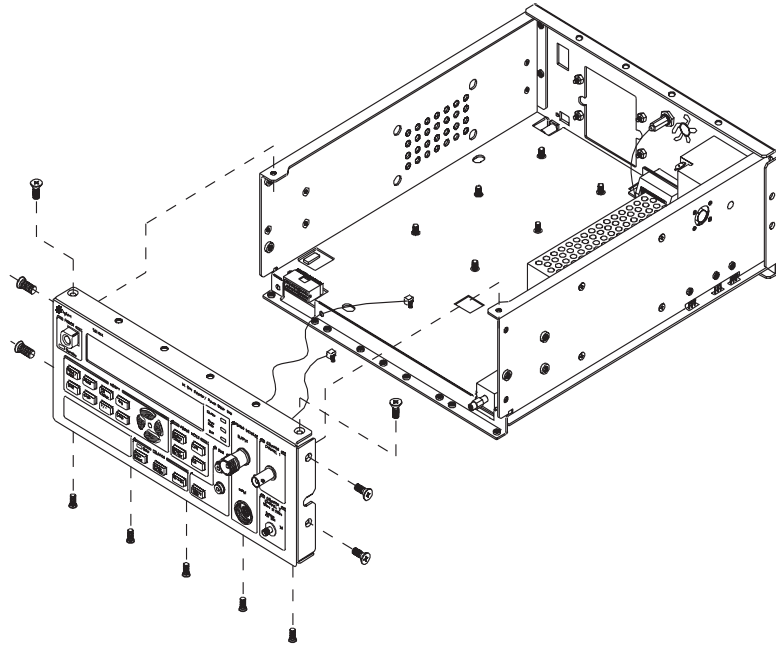

Figure 3-5. Removing the Front Panel Assembly
- 11 Remove the two 6-32 x 1/4 flathead machine screws from the countersunk holes at the top-front corners of the chassis (see Figure 3-5).